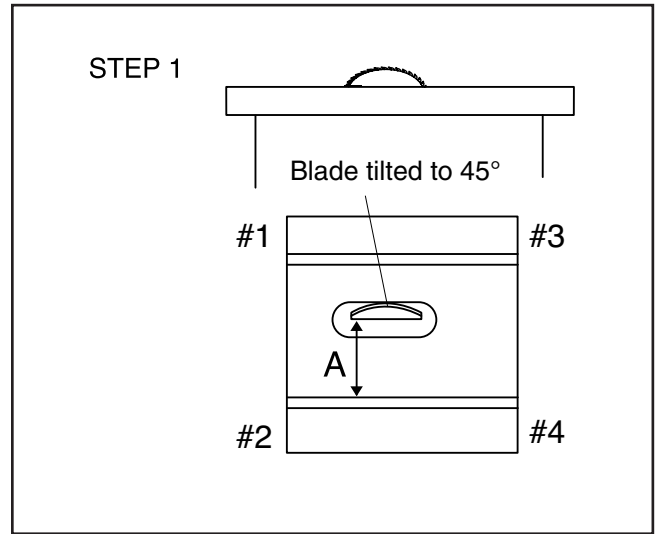

Figure 25.
11. Refer to **Figures 25 and 26**, for shim placement. If the distance of A is longer than B, shim(s) will need to be placed under corners #1 and #2. If the distance of B is longer than A, shim(s) will need to be placed under corners #3 and #4. Very thin shim stock works well, just make sure they are all the same thickness, and you put an equal number under each of the two corners.